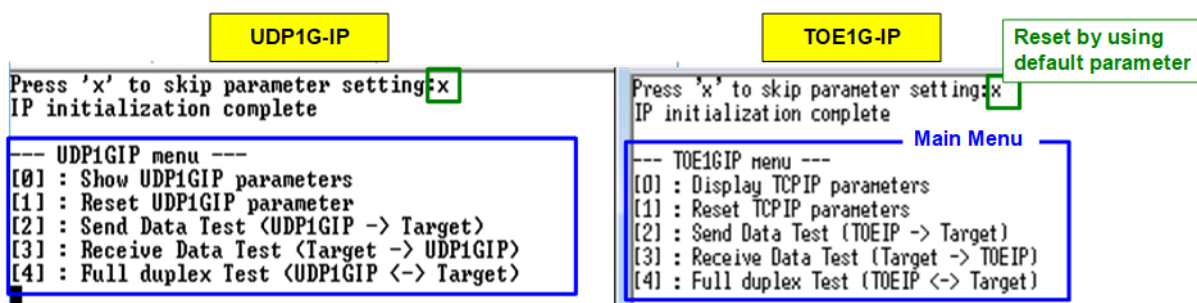

Figure 1-9 Initialization complete
- c. User enters 'x' to skip parameter setting for using default parameters to begin system initialization, as shown in Figure 1-9. If user enters other keys, the menu for changing parameter is displayed, similar to “Reset TCPIP/UDPIP parameters” menu. The example when running the main menu is described in “dg\_toe1gip\_cpu\_instruction” or “dg\_udp1gip\_cpu\_instruction document.